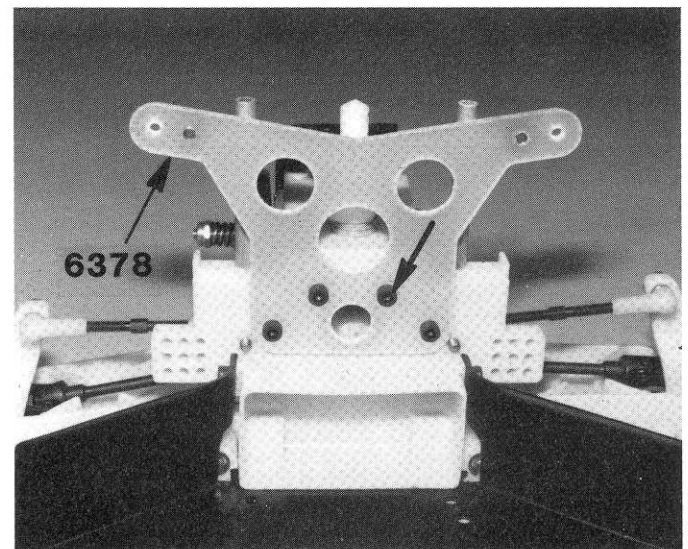

Fig. 113
□ **Fig. 113** Also in Bag #6-4 is the #6378 rear shock strut. Assemble this to the rear bulkhead with the 4 Allen screws, as shown.